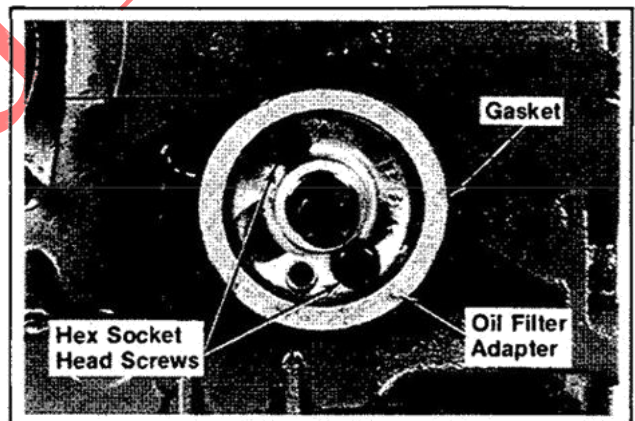

Figure 9-33. Removing Oil Filter Adapter.
1. Remove the hex socket head screws, oil filter adapter, and gasket. Refer to Figure 9-33.